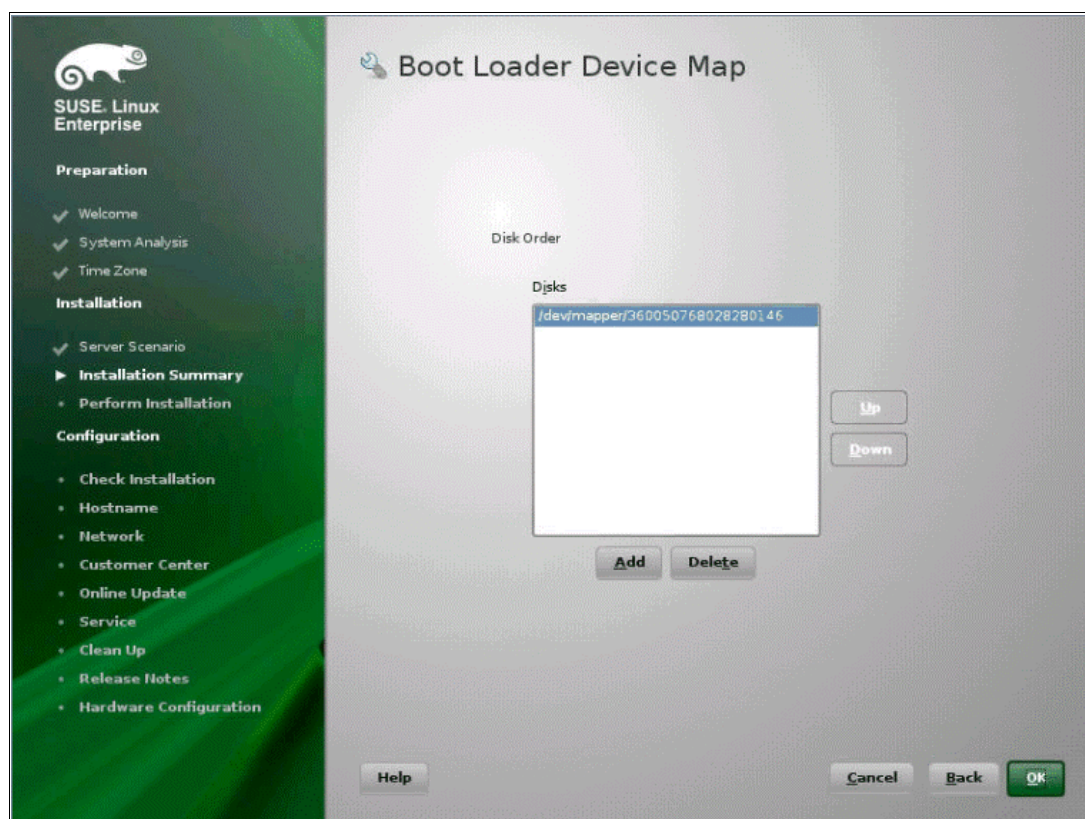

Figure 5-106 Boot Loader Device Map
15. Click the button, **Boot Loader Installation Details**, as shown in Figure 5-106.